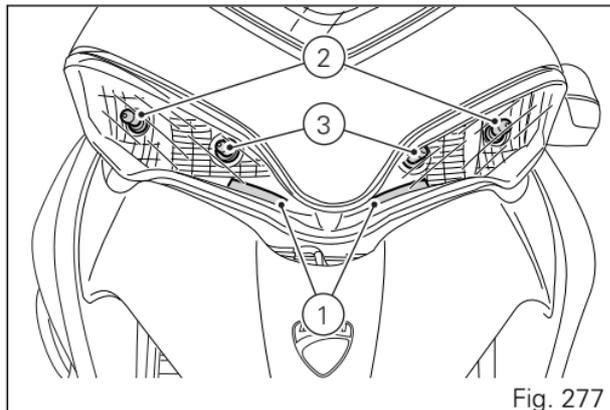

Fig. 277
(Fig. 277) shows the location of the LED parking lights (1), the LED low beams (2) and the high beam bulbs (3).